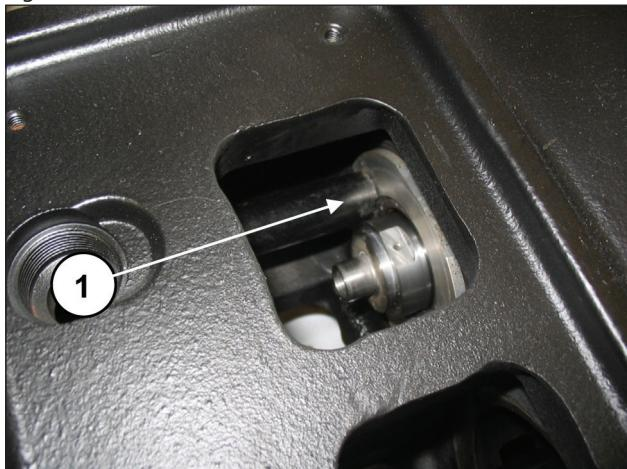
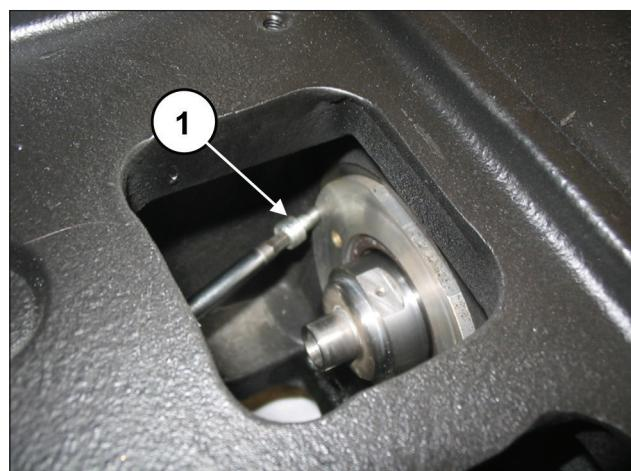

Fig. 142
Fig. 143
Make sure that the cover completely enters its seat (pos. ①, Fig. 142) being careful not to damage the lip of the seal ring. Screw in the oil seal covers using 2 x M6x14 screws (pos. ①, Fig. 143).